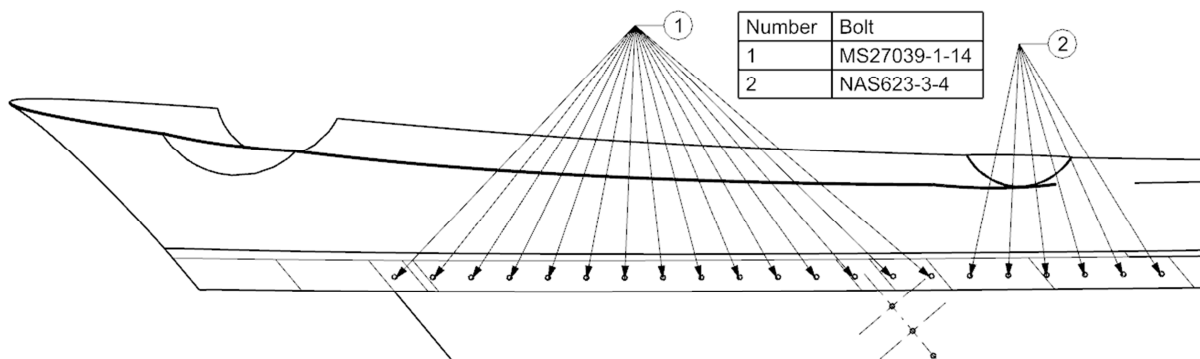
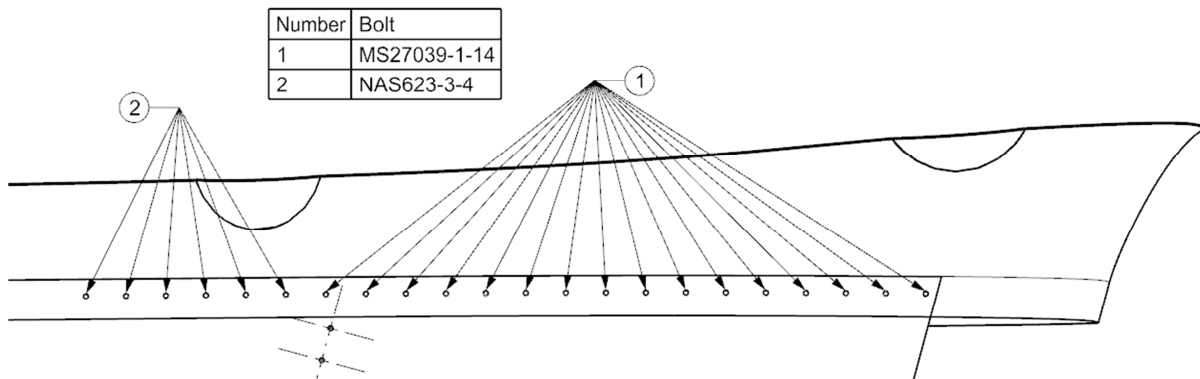
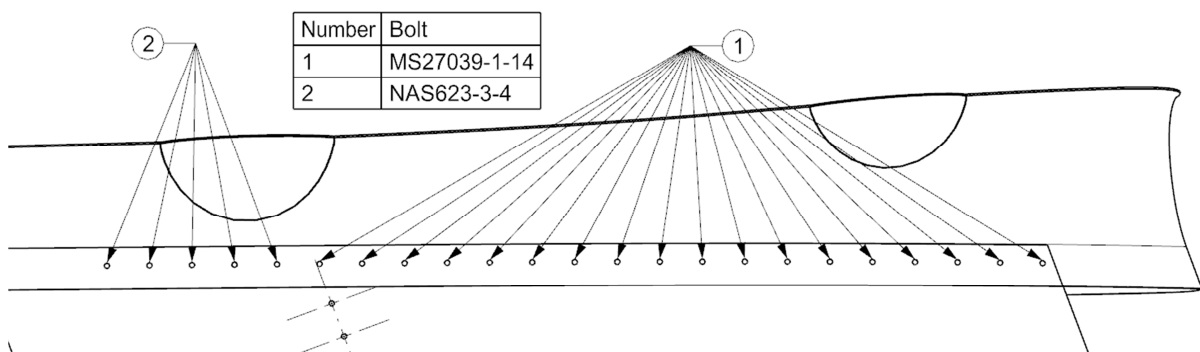

Figure 2-11: Inboard Wing Pylon Aerodynamic Fairing Fastener Placement
Figure 2-12: Center Wing Pylon Aerodynamic Fairing Fastener Placement
Figure 2-13: Outboard Wing Pylon Aerodynamic Fairing Fastener Placement
10. Attach the forward half of the aerodynamic fairing of step 8/9 to the wing array pylons using MS27039-1-14 fasteners as seen in Figure 2-12.
14. Attach the forward half of the aerodynamic fairing of step 12/13 to the wing array pylons using MS27039-1-14 fasteners as seen in Figure 2-13.
18. Attach the forward half of the aerodynamic fairing of step 16/17 to the wing array pylon using MS27039-1-14 fasteners as seen in Figure 2-11.
20. Attach the aft half of the aerodynamic fairings to the wing array pylons using MS27039-1-14 and NAS623-3-4 fasteners per Figure 2-11, Figure 2-12, and Figure 2-13.